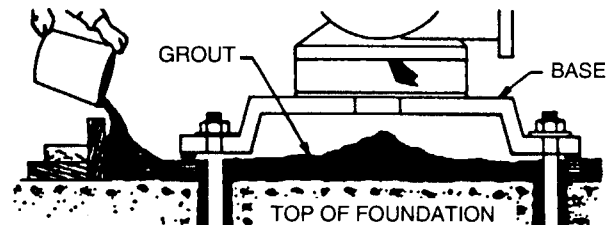

Figure 1. Grouting Baseplate
**G. GROUTING.** When the unit has been leveled and coupling alignment is complete, the unit should be grouted using a high grade non-shrinking grout (refer to figure 1):